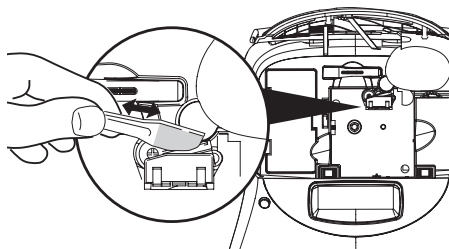

Figure 11
3. Gently wipe the padded side of the tool across the print head. See Figure 11.